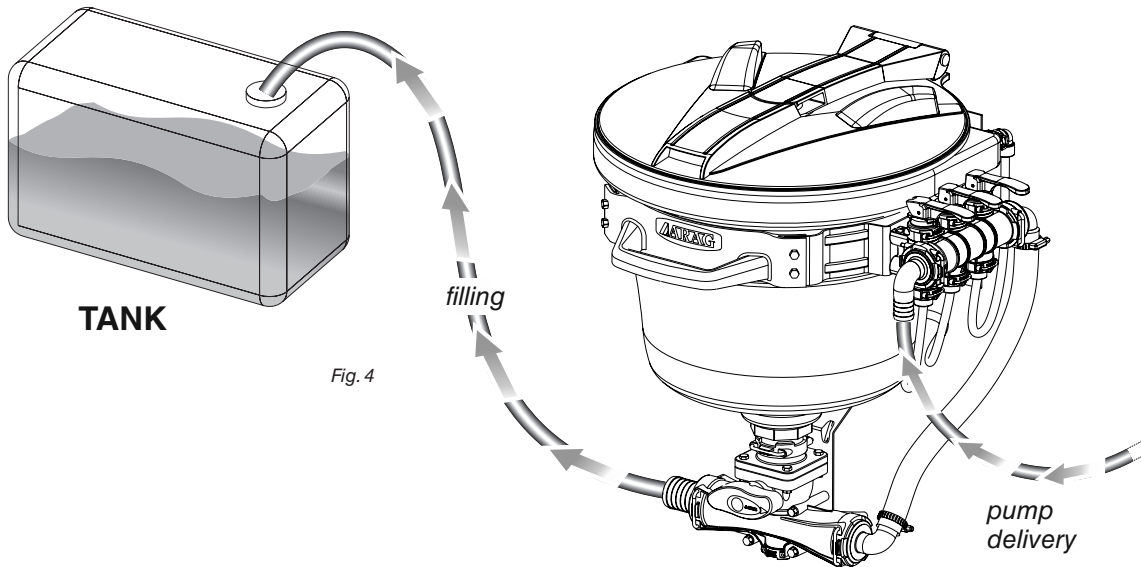

Fig. 4
Start the pump deviating the flow towards Mixer delivery at the same time (Fig. 4) **make sure to comply with flowrate/pressure values listed in the nozzle tables (tables 2a ÷ 2d).**
Since a large quantity of chemical product must be filled, it is possible to pour the product directly in the Mixer with the lid open during draining, with the valve (yellow lever C) open and the Mixer valve open (Fig. 4) until the fluid is completely transferred into the tank.
**5.2 Feeding the tank with premixed product****Open the ball valve on the lower Mixer area (Fig. 4):** by doing so, the Mixer internal area is connected to the main tank loading circuit.